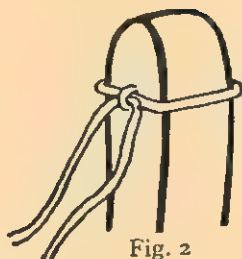

Fig. 2
(2) Separate strings and pass them round arm, bringing both ends through loop and pull tight (see Fig. 2).
(3) Thread both ends through body and other arm.
(4) Separate strings as before and pass round outside of arm, but thread *one only* between strings that come out of body. Pull tight and neat, and tie up both ends in a firm knot.